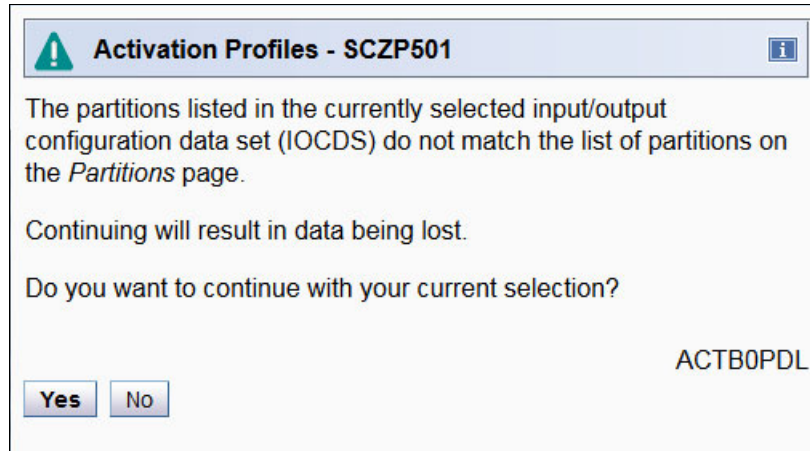

Figure 8-131 HMC - Activation Profiles: ACTB0PDL message
8. Click the IOCDS that you updated in 8.8, “HCD/HMC: Loading the 2964 processor IOCDS” on page 495. The ACTB0PDL message is displayed (Figure 8-131).